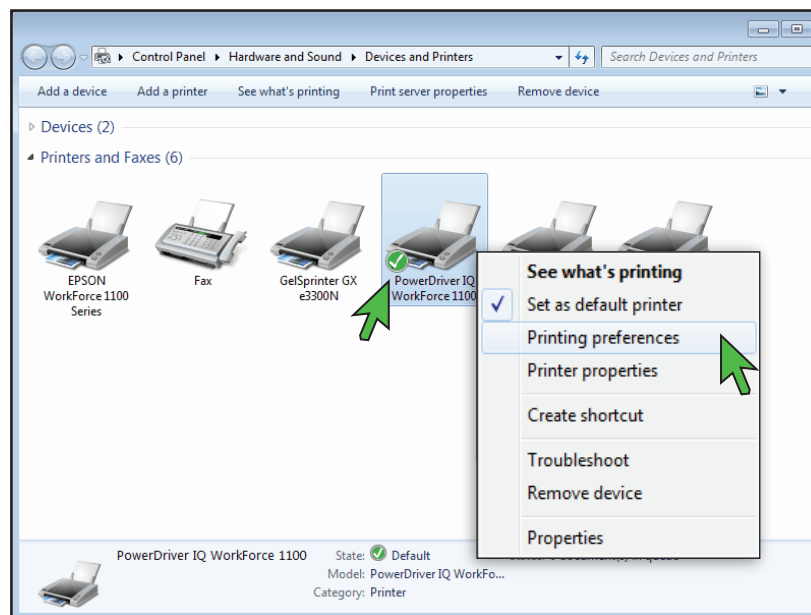

FIGURE 2
2. In the Devices and Printers folder, right-click the **PowerDriver IQ WorkForce 1100** and select **Printing Preferences** (see *FIGURE 2*). This will open the PowerDriver IQ WorkForce 1100 Printing Preferences window (see *FIGURE 3*).